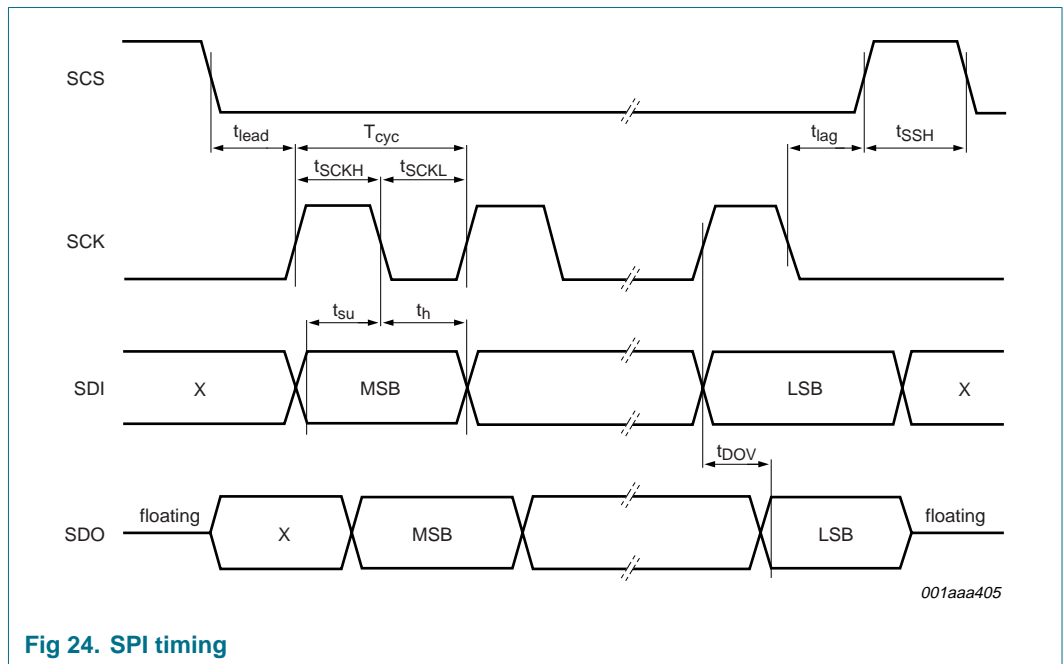
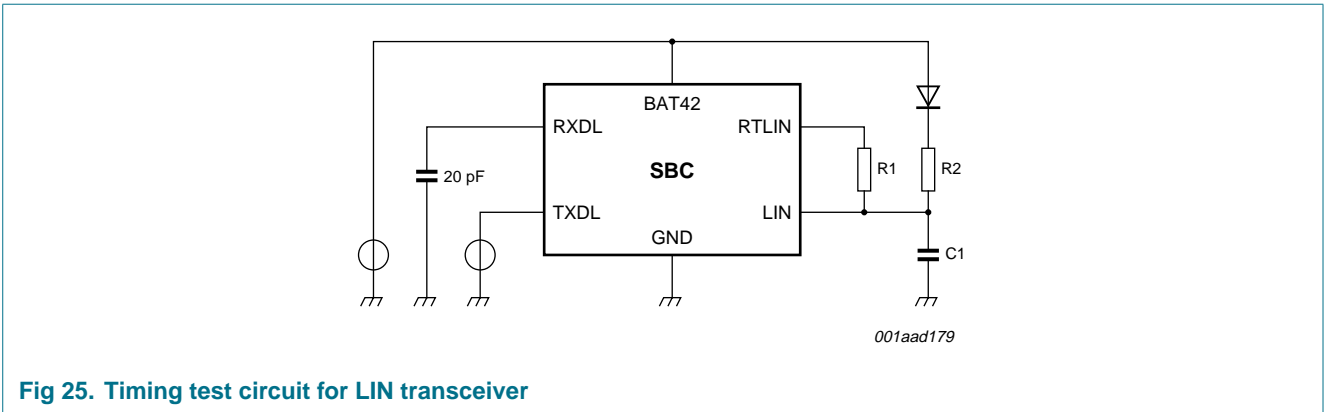
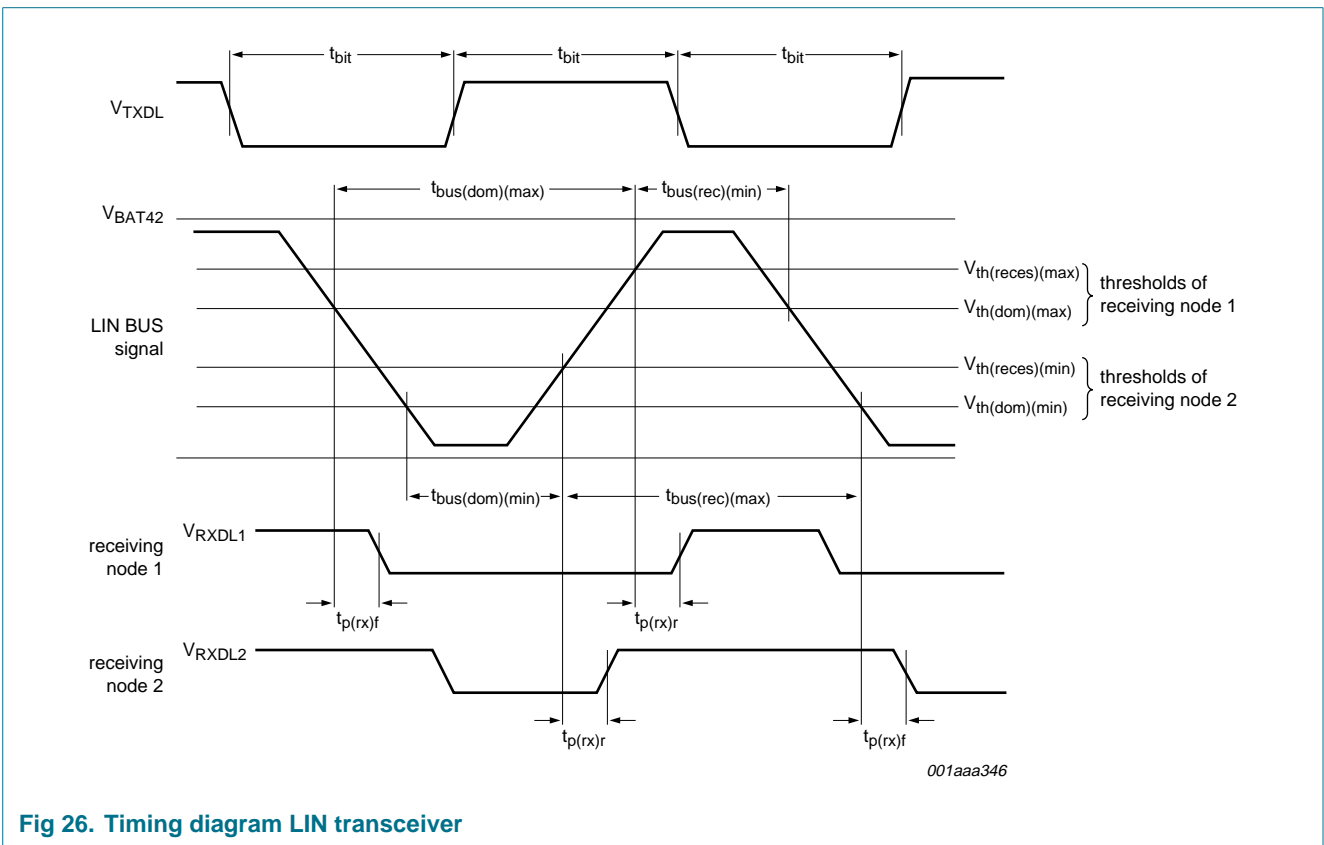

Fig 24. SPI timing
Fig 25. Timing test circuit for LIN transceiver
Fig 26. Timing diagram LIN transceiver
Serial peripheral interface timing; pins SCS, SCK, SDI and SDO (see Figure 24)^[2]
- [3] t_{bit} = selected bit time, depends on LSC bit; 50 μs or 96 μs (20 kbit/s or 10.4 kbit/s respectively); bus load conditions ($R_1/R_2/C_1$): 1 k Ω /1 k Ω /10 nF; 1 k Ω /2 k Ω /6.8 nF; 1 k Ω /open/1 nF; see Figure 25 and Figure 26.
Modifications:	<ul style="list-style-type: none"> • The format of this data sheet has been redesigned to comply with the new identity guidelines of NXP Semiconductors. • Legal texts have been adapted to the new company name where appropriate. • Section 6: symbols corrected; replaced symbol $t_{RSTN(ext)}$ with $t_{RSTN(CLT)}$ and with $t_{RSTN(CHK)}$; replaced t_{INTNH} with t_{INTN} • Table 11: table note added • Table 25: updated pin SDO conditions and pin LIN, parameter I_{LIL} value • Figure 24 and Figure 26 updated • Soldering information updated • Added Test information, see Section 11 “Test information” • Added Figure 23 • Added a second condition row to I_{LIH} in Table 25 • Changed in Table note [2] of Table 26 “V_{BAT14}” to “V_{BAT42}”